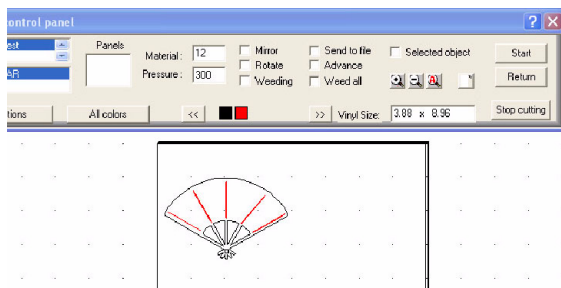

Figure 164
- 2 Reduce the pressure setting to a light pressure. See figure 164.